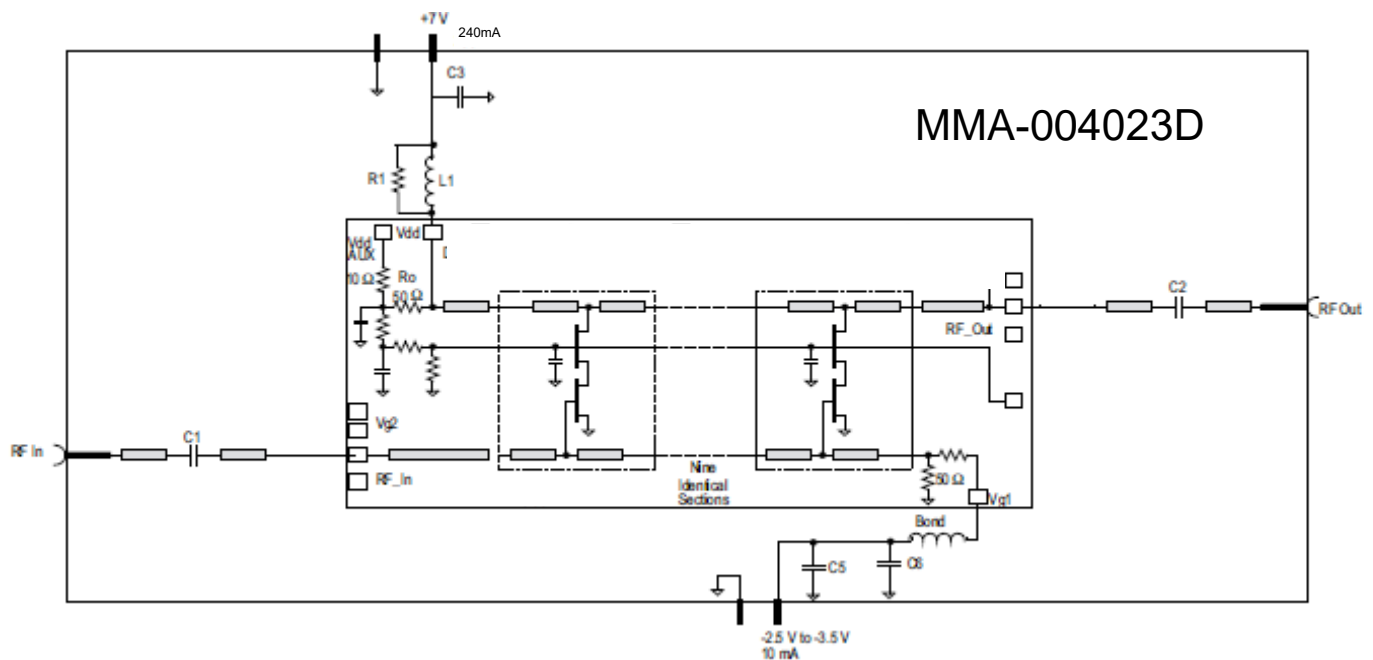

Figure 3. Basic 2 GHz to 50 GHz Schematic
0.030 x 0.030 x 0.007 in. It is important to note that capacitive parasitics, in the drain bias network will result in resonances in the frequency response of the TWA. Therefore, it is strongly recommended to reduce parasitic capacitance as much as possible. To minimize resonances, an inductor with a high self-resonate frequency is recommended. If a spiral chip inductor is used, a 50 to 200 Ω , parallel de-queuing resistor will also be necessary. A thin film alumina resistor is recommended for minimal associated parasitics. The schematic in Figure 3 illustrates the external bias recommended for basic operation. Input and output RF ports are DC coupled and will require DC blocking capacitors, C1 and C2, if DC is present on these paths. Selection of DC blocks will be dependent on operating frequency bandwidth. See Table 1 for recommended passive components.